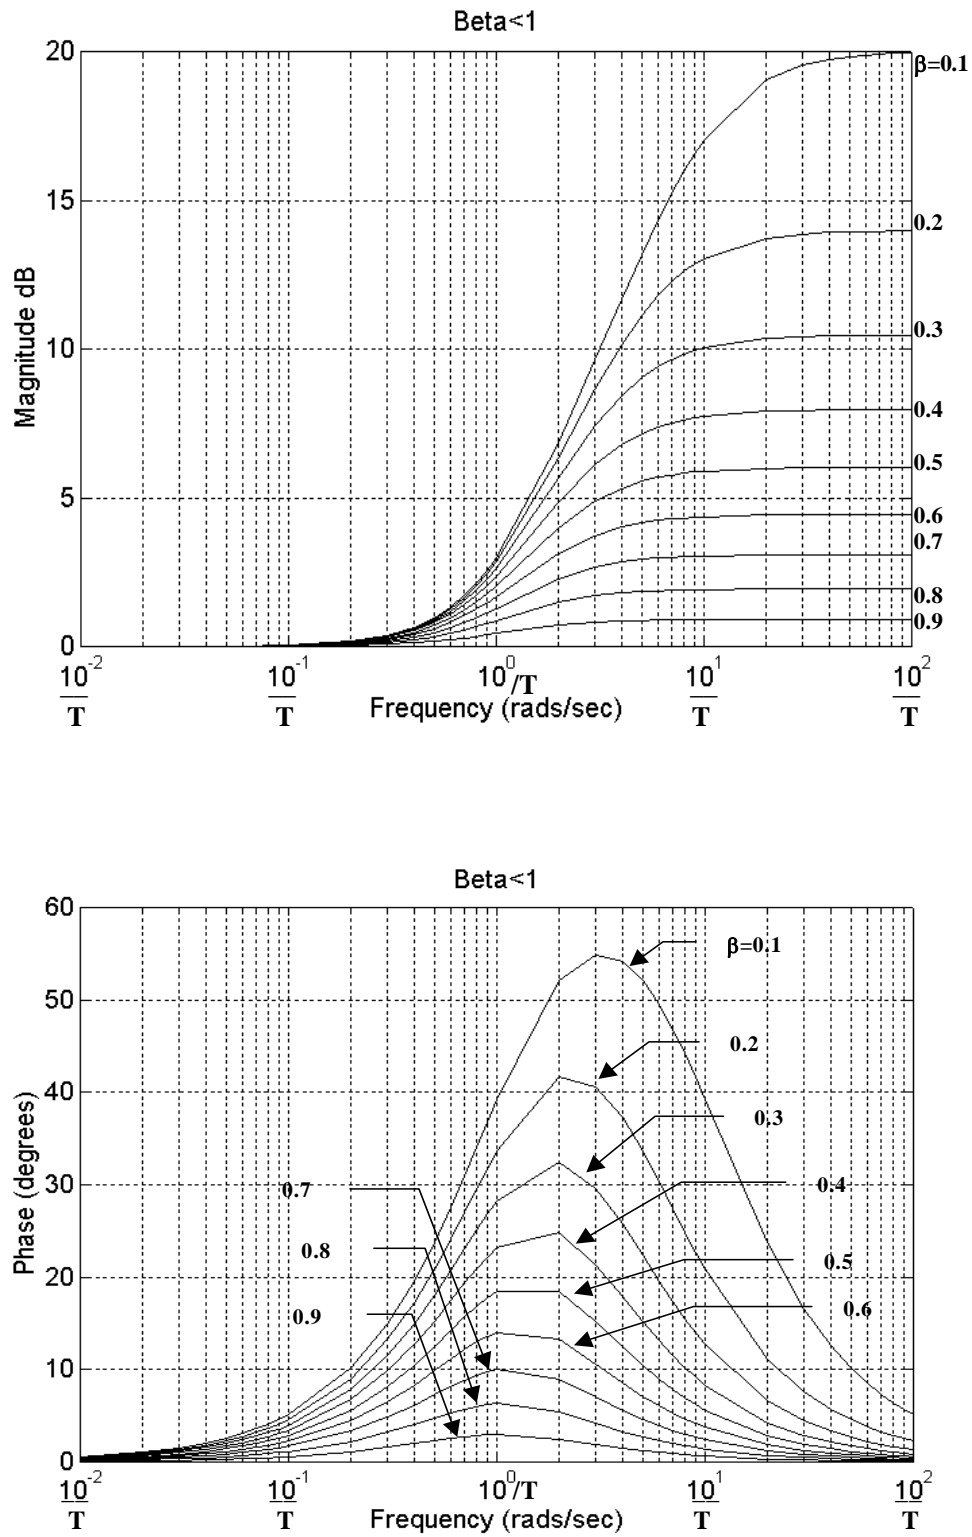

Figure 3.2: Normalised Phase-Lead Characteristics,  $K_c \frac{(1+Ts)}{(1+\beta Ts)}$ ,  $\beta < 1$ ,  $K_c = 1$ .
- ii. From the Bode plot determine the gain margin and phase margin of the system. (3)
- iii. Using the normalised phase-lead characteristics provided in figure 3.2, select values of  $\beta$  and  $T$  to provide a phase margin of at least  $50^\circ$ . (4)
- iv. Estimate the closed-loop bandwidth of the system using the values of  $\beta$  and  $T$  you have chosen in part **iii**. Justify your answer. (1)
- v. Determine the actual steady-state error you would expect for a unit ramp input to the closed-loop system. (2)